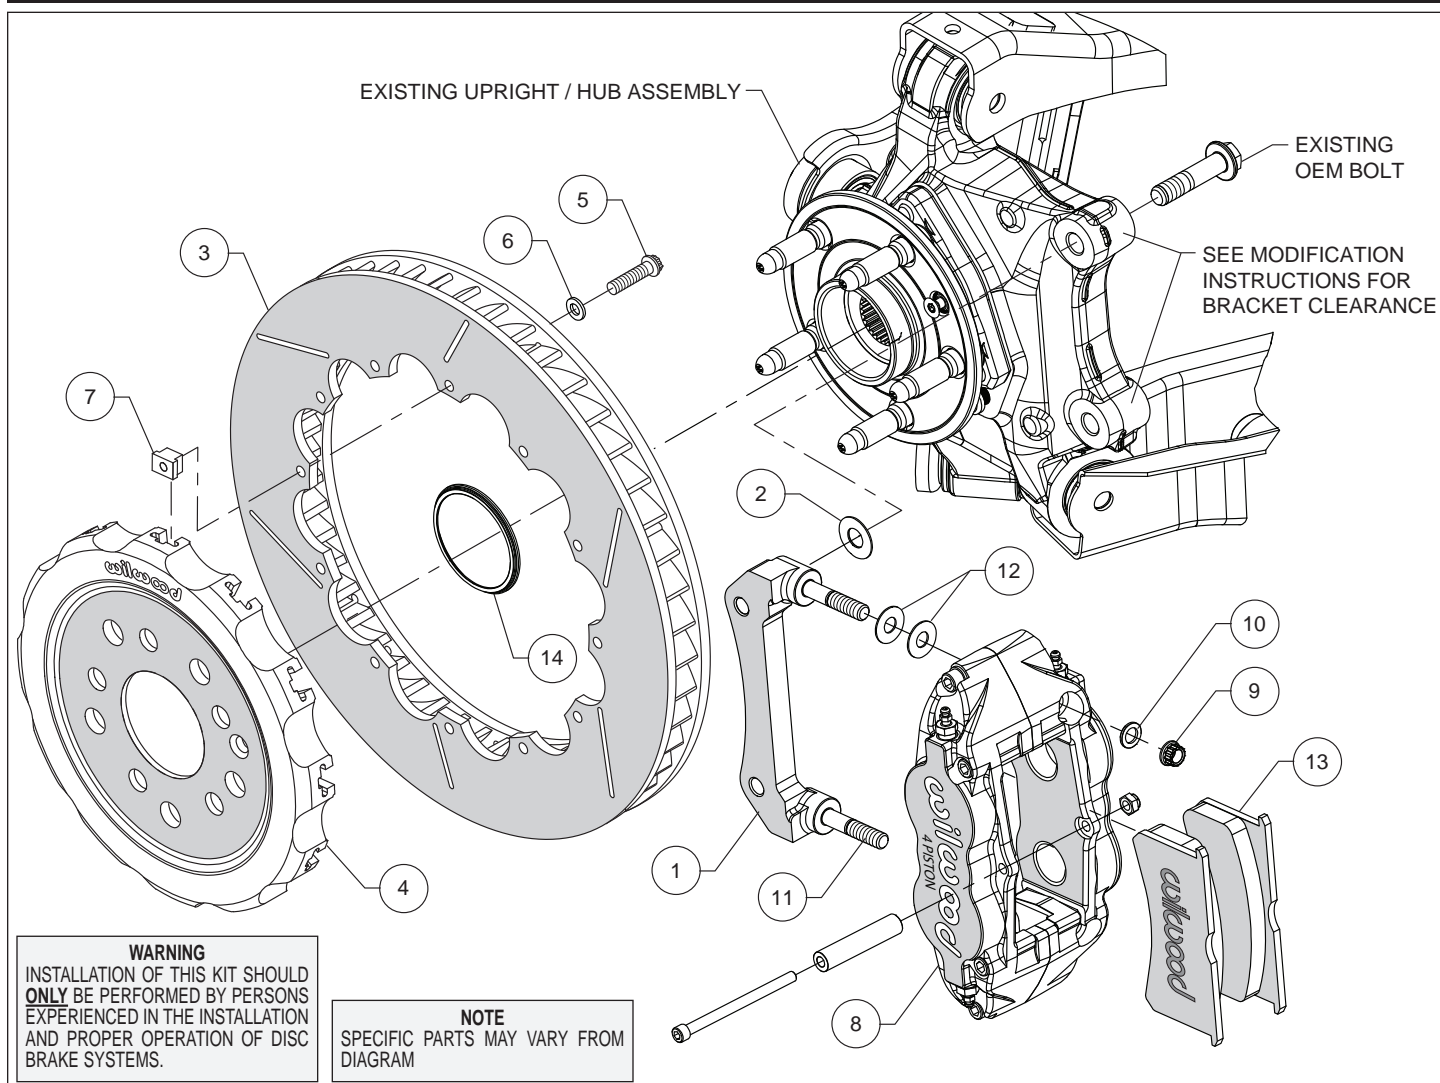
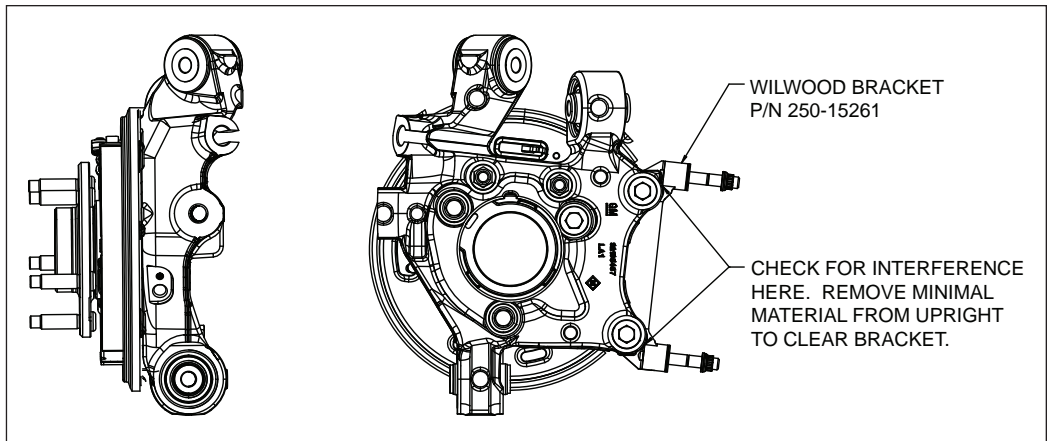
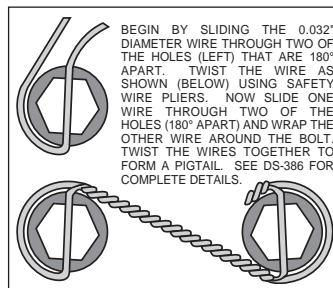

Figure 1. Typical Installation Configuration
Figure 3. Caliper Mounting Tabs Modifications
Figure 4. Safety Wire Diagram
- The OE caliper mounting tabs needs to be modified as shown in Figure 3 to clear the new Wilwood rotor and caliper mounting bracket (1). Temporarily mount the caliper mounting bracket as shown in Figures 1 and 3. Figure 3, Examine the fit of the bracket against the OE caliper mounting tabs and remove just enough material so that the bracket mounts flush.
Assembly Instructions (numbers in parenthesis refer to the parts list and Figure 1 on the preceding pages):
- The caliper mount bracket (1) should initially be installed with clean, dry threads on the mounting bolts. Orient the bracket, as shown in Figure 1 and Photo 1, and install using saved OEM caliper mounting bolts. Initially place one .033" thick shim (2) on each bolt between the bracket and upright, Figure 1. Temporarily tighten the mounting bolts. **NOTE:** The bracket must fit squarely against the mount bosses on the upright. Inspect for interference from casting irregularities, machining ridges, burrs, etc. Later, after the caliper alignment has been checked, the mount bolts will be secured using red *Loctite*® 271.
- Orient the rotor (3) and the hat (4) as shown in Figure 1 and Photo 2. Attach rotor to hat using bolts (5), washers (6), and t-nuts (7), Figure 1. Follow additional instructions included with the bolt kit. Using an alternating sequence, apply red *Loctite*® 271 to the threads, and torque to 120 **in-lbs**. For an added measure of security, the bolts may be safety wired using standard 0.032 inch diameter stainless steel safety wire as shown in Figure 4. Refer to Wilwood's data sheet DS-386 (available at www.wilwood.com/Pdf/DataSheets/ds386.pdf) for complete safety wire installation instructions.
in Figure 1 and Photo 4. Mount the caliper (8) onto the bracket (1) using lock nuts (9) and washers (10), Figure 1. Temporarily tighten the lock nuts and view the rotor through the top opening of the caliper. The rotor should be centered in the caliper, Photo 5. If not, adjust by adding or subtracting shims (2) between the bracket and the upright. Once the caliper alignment is correct, remove the bracket mounting bolts one at a time, apply red *Loctite*® 271 to the threads, and torque to manufacturer's specifications.